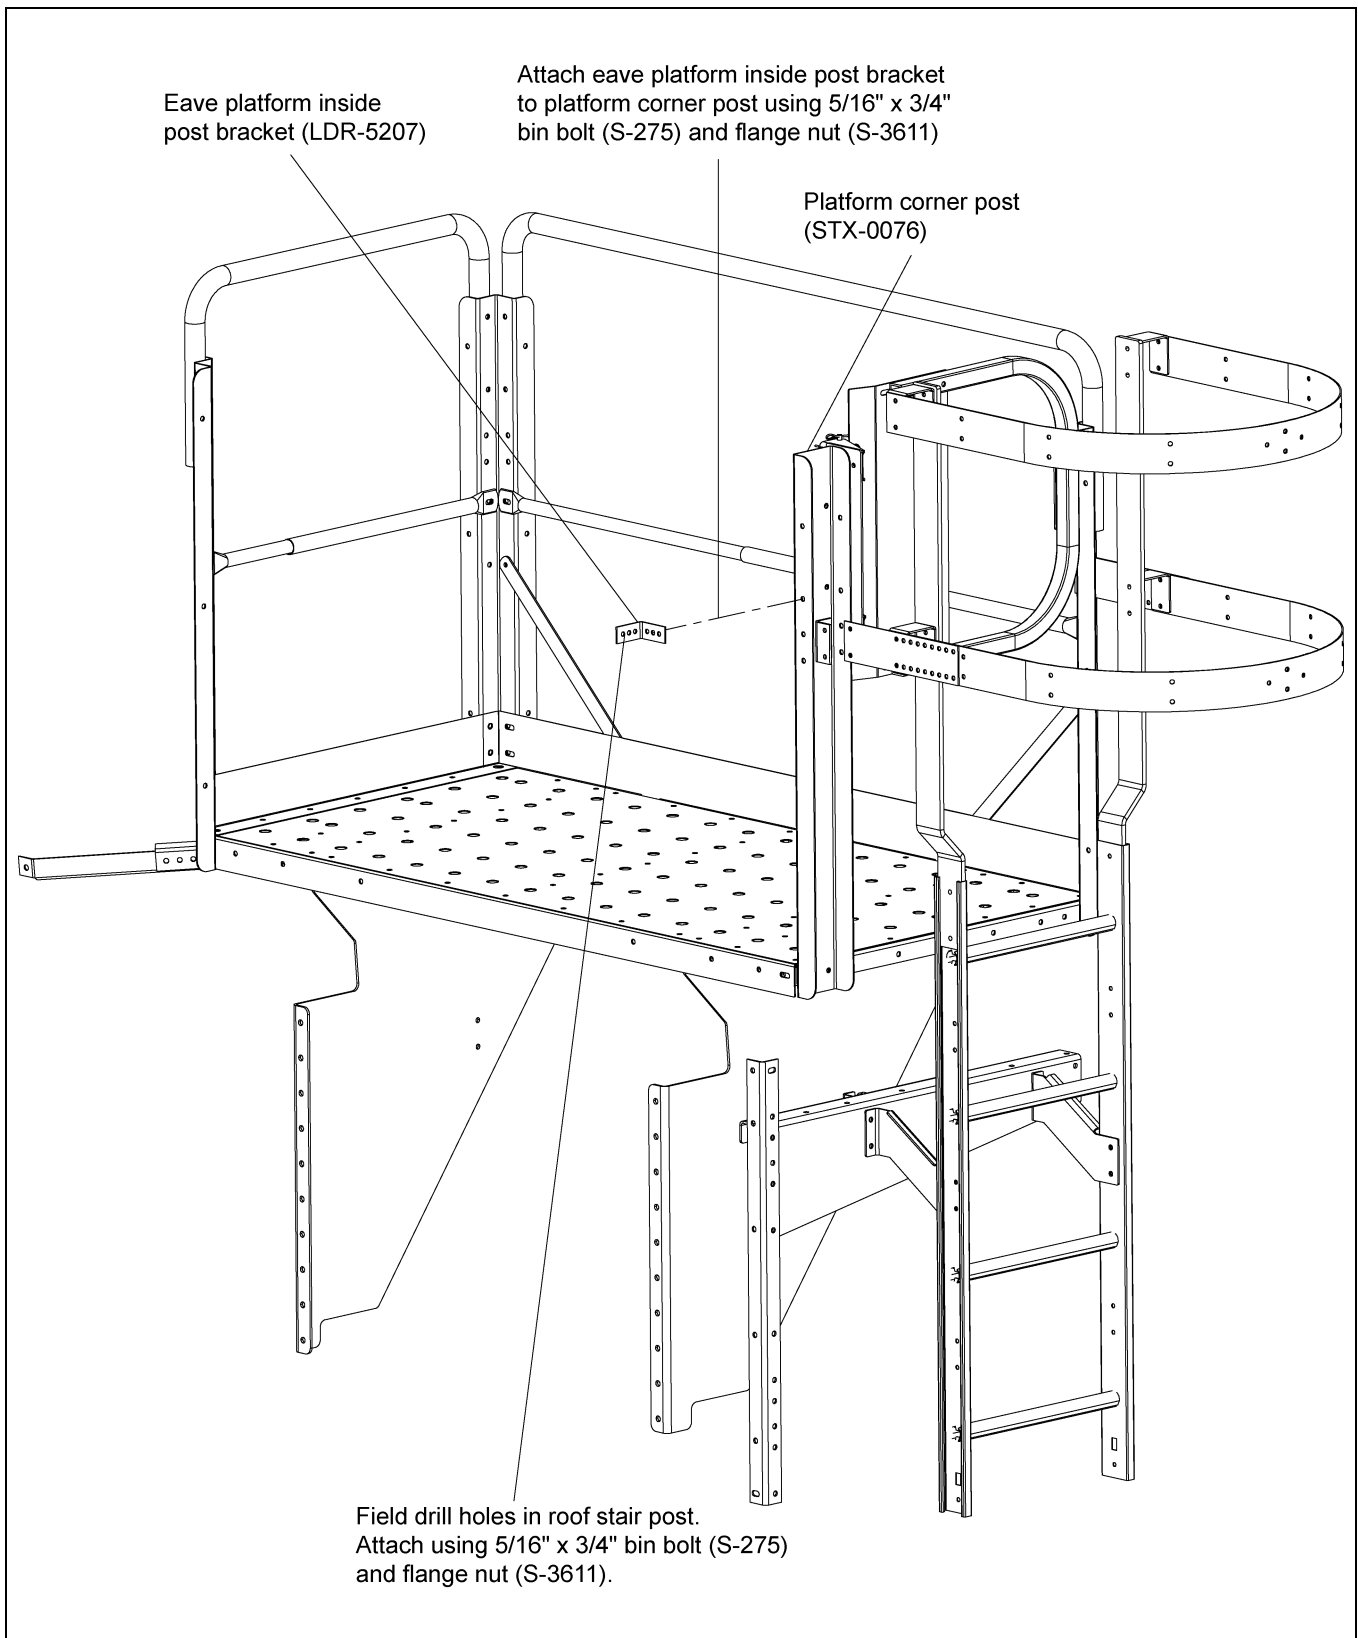

Figure 4J
12. Attach the post bracket to the inside post and bottom stair post using 5/16" hardware. (See Figure 4J.)